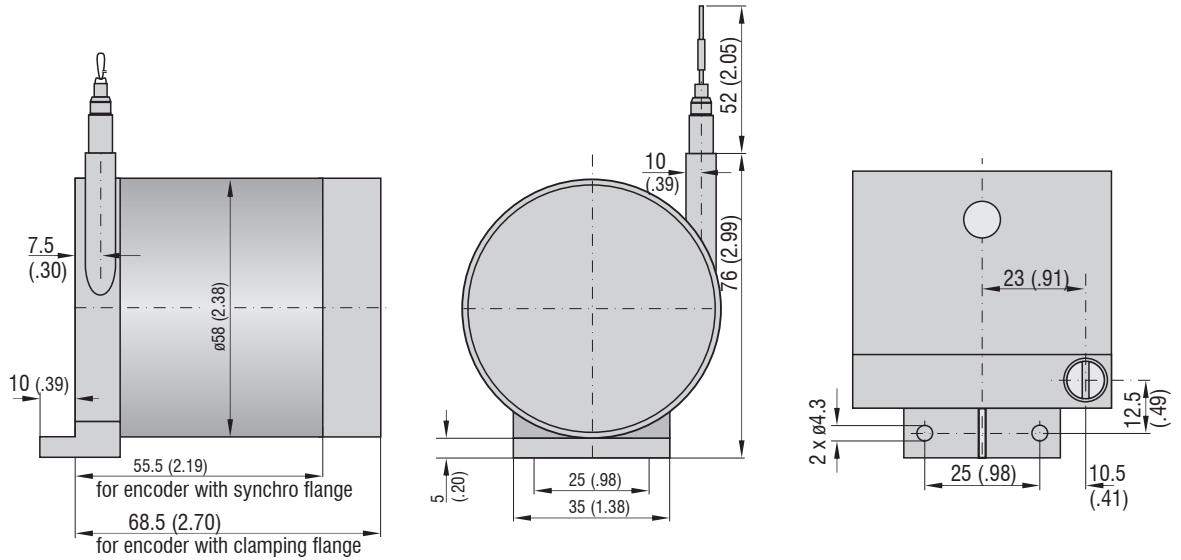

Fig. 4 Dimensional drawing of WDS-Z60-M series, dimensions in mm (inches)
- Z60 series: Mounting through bores for two M4 DIN 931 screws, see Fig. 4.